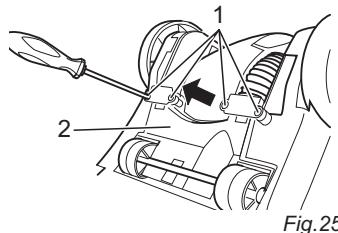

Fig.25
2. Unscrew the 4 screws on the hinge covers (Fig. 25/1) of the base plate (Fig. 25/2) using a crosshead screwdriver.
3. Remove the hinge covers (Fig. 25/1).
- Assemble the hinge covers (Fig. 25/1) with four screws (Fig. 25).